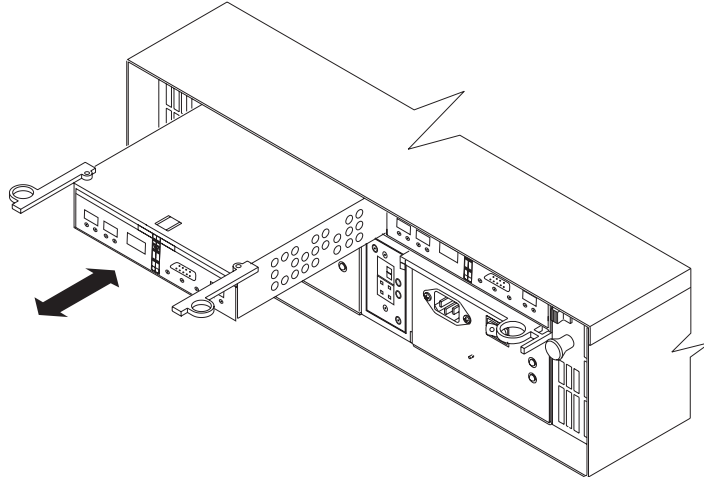

Figure 57. Pull-rings for removing a controller
- b. Grasp the pull-rings (see Figure 57 on page 73), then pull on the levers and remove the RAID controller.